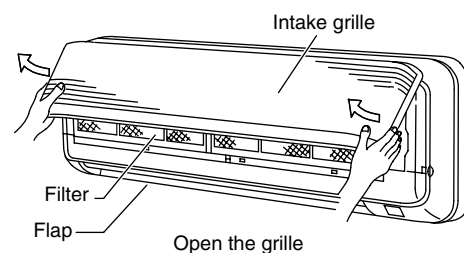

Fig. 3-22
- (1) Lift up on both sides of the air-intake grille to open. (Fig. 3-22)
(2) Remove the filter. (Fig. 3-22)